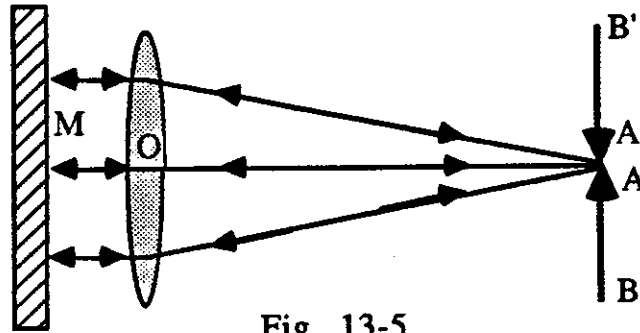

Fig. 13-5
This method is especially suitable for determining the focal length of a convex lens of large focal length. If an object AB (Fig. 13-5) is placed in the focal plane of the convex lens such that the point A is at the principal focus, then all the rays starting from A will become parallel to the principal focus after refraction through the convex lens.
- (a) Mount the plane mirror, a convex lens and a pin on the optical bench as shown in Fig. 13-5. Rotate the plane of the mirror so as to have the tip of the pin, the tip of the image and the optical center of the lens in a straight line.